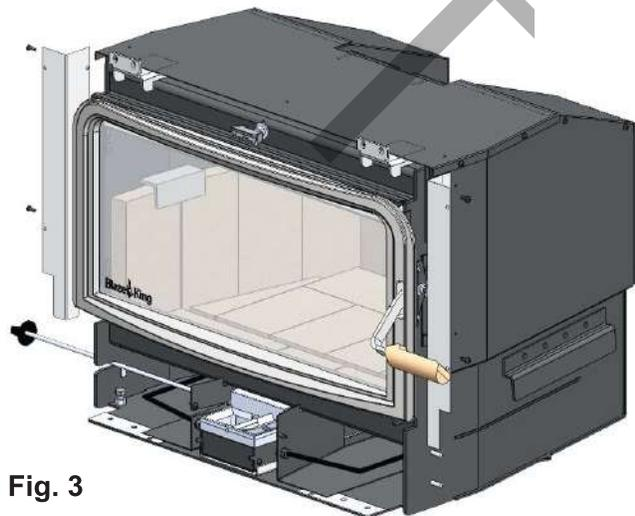

Fig. 3
3. Screw inner side panels to both sides of the firebox using a #2 Robertson screwdriver, four screws (Fig. 3)